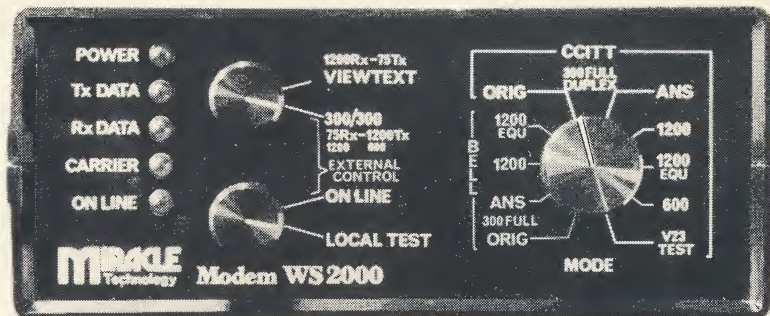

Figure 1 (above)
2.3 The Modes of operation available are as shown in figure 1, which illustrates the front panel. The darker coloured wording indicates modes of use not immediately available, except with extra hardware fitted in the modem, or in areas outside British Telecom jurisdiction.
2.6 With a terminal or computer connected to the modem, the data rate set at 300 baud full duplex, and the necessary software, for 300 baud full duplex use running, set the switches to the positions shown in Figure 1 below.